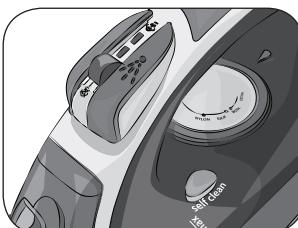

Fig. 5
- 3 Select the desired temperature by turning the temperature adjustment knob (J), lining it up with the reference (I) on the iron (Fig. 5).
- 4 The temperature control lamp (H) turns on.